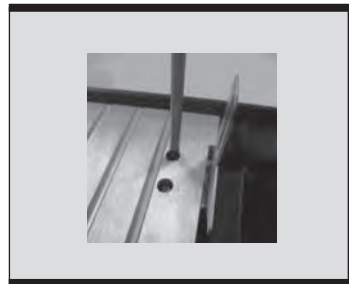

Fig 1
- Remove the two screws and washers from the top of the deck, slide the metal bracket into the desired position (Fig 1) and then fix in place re-using the two screws and washers. Ensure the bracket is perpendicular to the deck and positioned inline with the blade. Loosening these screws allows some minor adjustment to ensure the bracket does not foul the tile when cutting, or if the laser needs slight re-alignment.